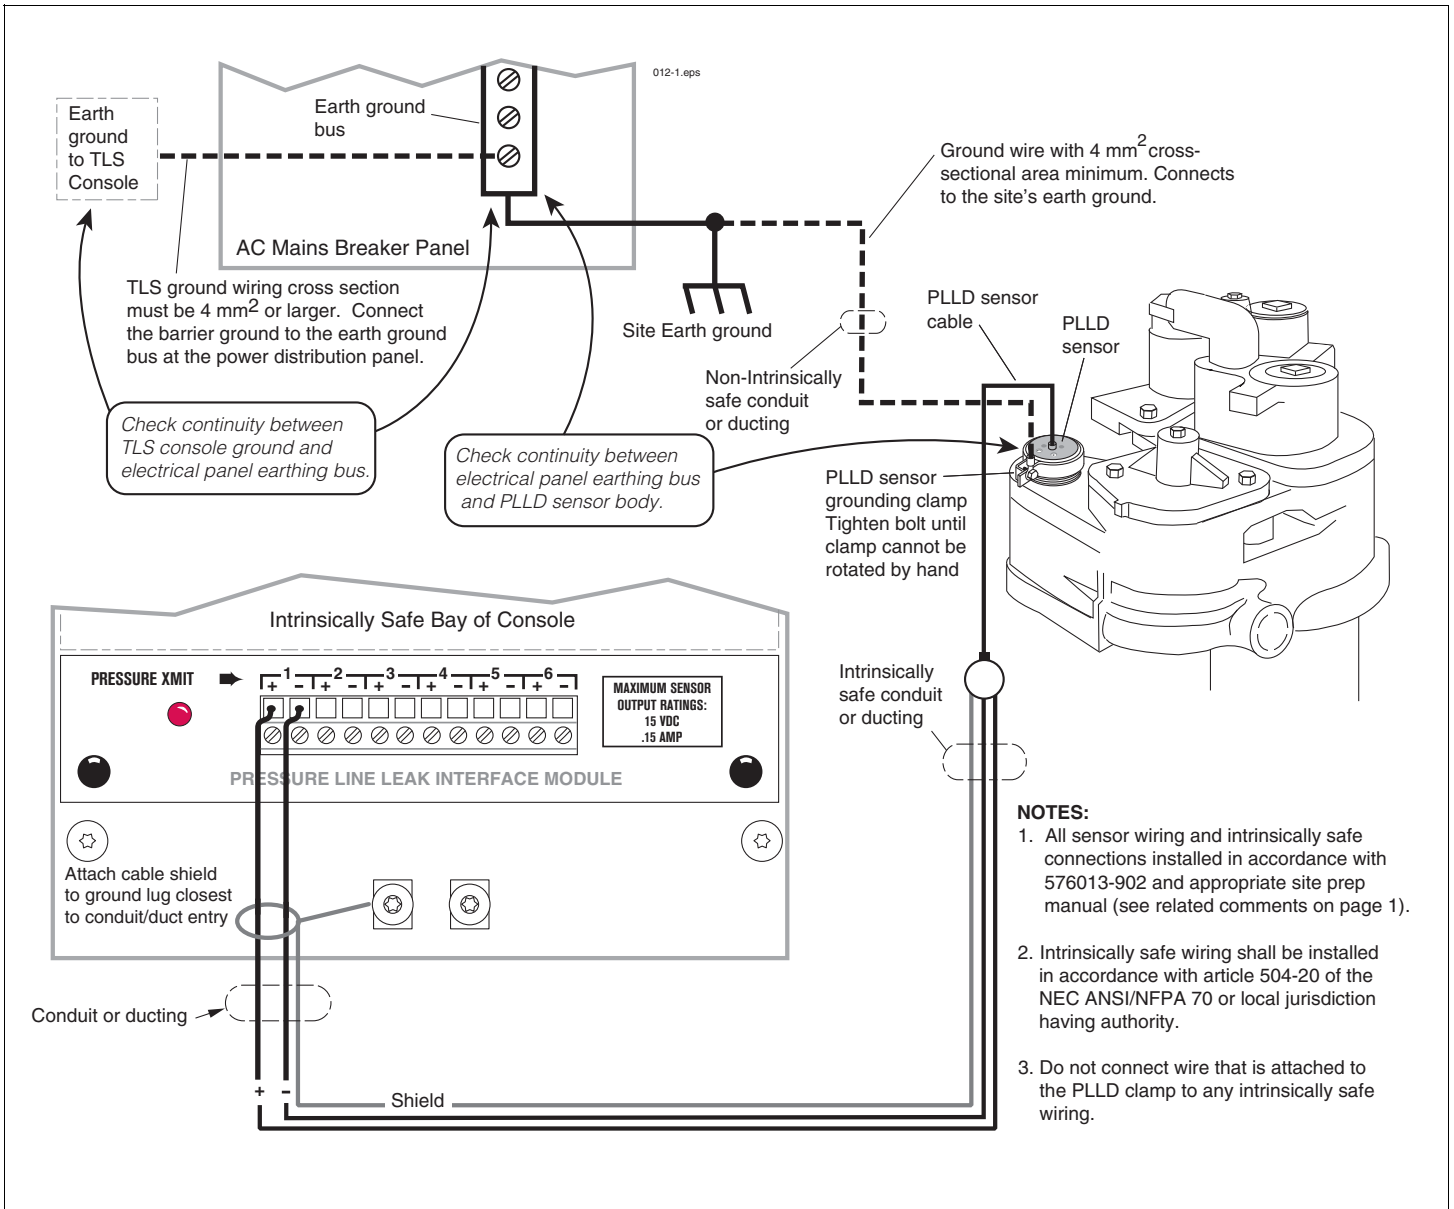

Figure 3.
7. Confirm continuity between the PLLD sensor body and ground at the electrical panel and between the electrical panel to the TLS console chassis (reference Figure 3).